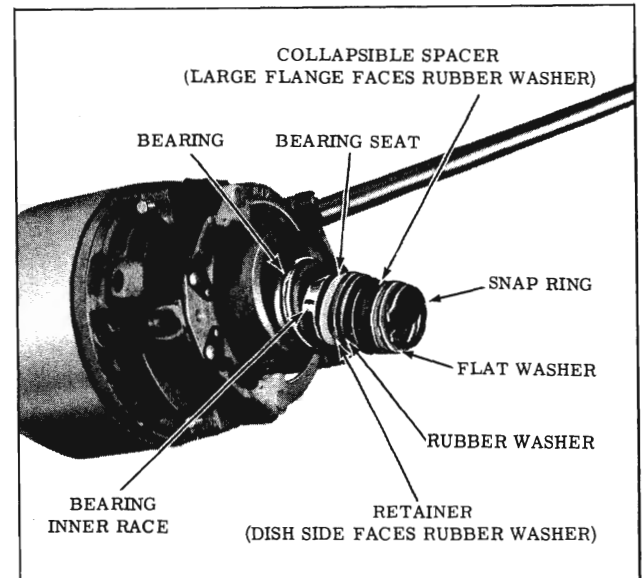

Fig. 4-106 Installing Upper Shaft Parts
6. Install the upper bearing (rollers facing up), bearing inner race, bearing seat (flanged portion "up", retainer (dish facing up), rubber washer, a new collapsible spacer and washer. (Fig. 4-106)